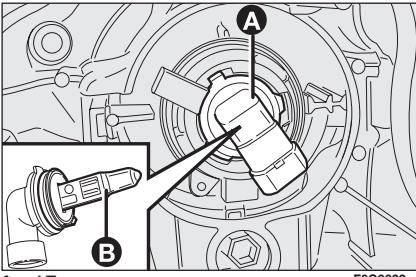

fig. 17
- turn connector **A**-**fig. 17** counter-clockwise and remove it;
- remove the bulb **B**-**fig. 17** and fit the new bulb.